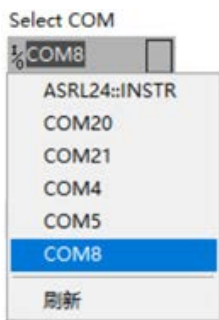
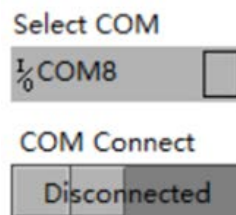
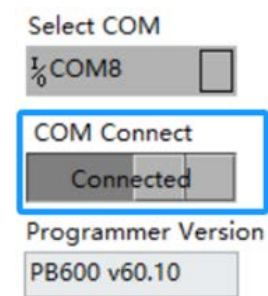

Figure 5.2.3 Select COM
Figure 5.2.4 Click COM Connect
Figure 5.2.5 Status of the programmer after
- Click on the drop-down menu below "Select COM" to choose the corresponding port number for the programmer (Figure 5.2.3). Click on the "Disconnected" button below "COM connect" to establish communication between the programmer and the host computer (Figure 5.2.4). After successfully establishing communication between the programmer and the host computer, the programmer will return the current firmware version and display it in the box corresponding to "Programmer Version" below (Figure 5.2.5).